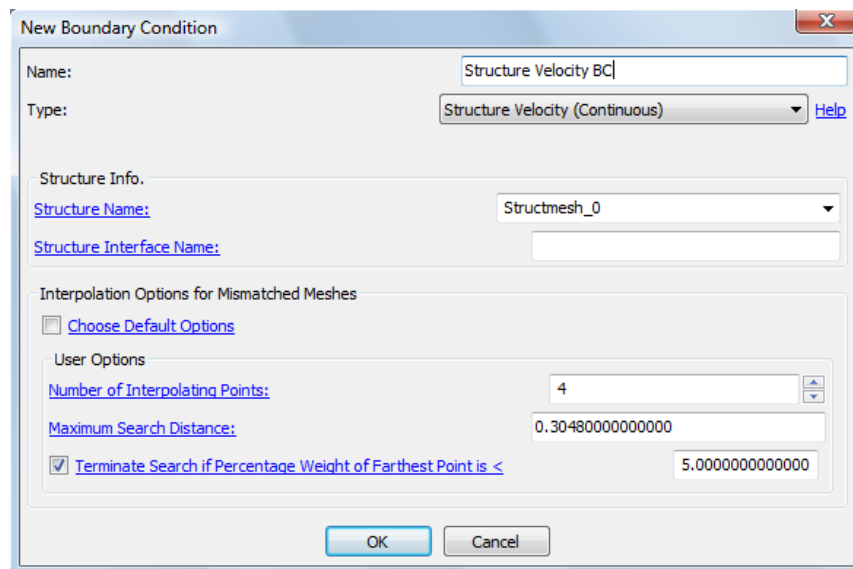

Figure 6.34 Structure Velocity (Continuous)
Structure Velocity BC is a commonly used Boundary Condition in the industry. This can be loaded from frequency response analysis of the structure FEA done externally. Refer to Section 5.1.2 for details on how to load frequency response data. (Figure 6.34)
6.6.9.1. Structure Name Select the structure name from which the BCs are applied. (Figure 6.34)
6.6.9.2. Structure Interface Name Select the structure interface from which the BCs are applied. A structure interface is a group of faces (of FEA elements) in contact with the fluid medium. Each structure interface is uniquely identified by the structural mesh ID, element ID, and the local face number on the element. If this field is left blank, the structure velocity is applied directly from the structure. (Figure 6.34)